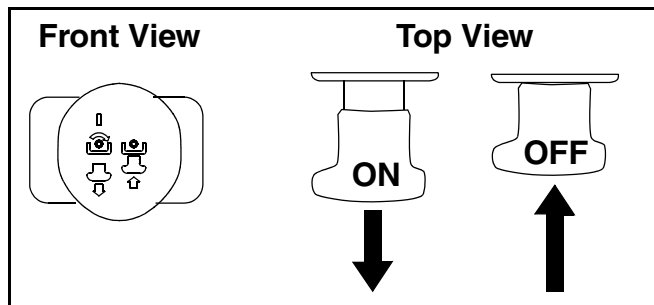

Figure 8
- Pull the PTO/Blade Engage knob outward into the engaged (ON) position. See Figure 8.
**IMPORTANT:** With the ignition key in the **NORMAL MOWING** position, the PTO clutch will automatically shut off if the PTO (Blade Engage) knob is moved into the engaged (ON) position with the the drive pedal in position for Reverse travel. Refer to **Safety Interlock Switches** on page 15.